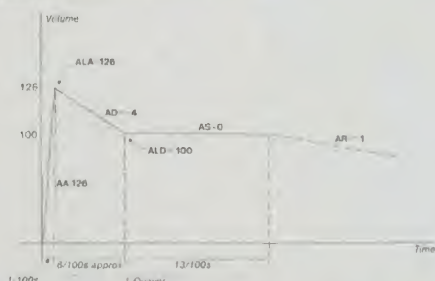
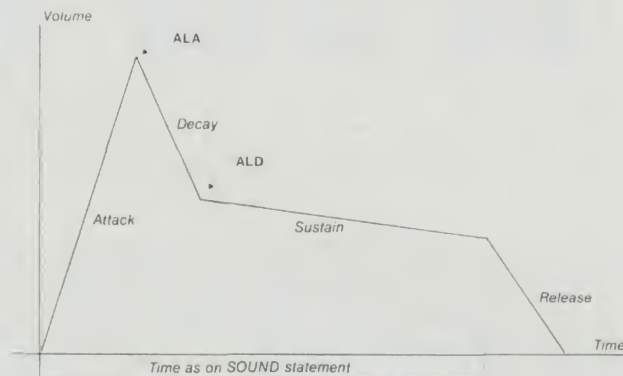

Figure 5. Percussive amplitude envelope given by ENVELOPE 1, 0, 0, 0, 0, 0, 0, 0, 0, 0, 126, -4, 0, -1, 126, 100.
Figure 4. Amplitude waveform common to ENVELOPE statement.
Look at figure 4. This is an amplitude waveform common to the BBC ENVELOPE statement. It consists of 4 ranges marked attack (AA), decay (AD), sustain (AS), and release (AR), as well as two set points (ALA) –volume after attack ramp and ALD, –volume after decay ramp. The volume levels ALA and ALD are numbers between 0 and 126. To produce a useful envelope consideration has to be given to the type of instrument to be imitated. Look at figure 5 which is the amplitude envelope of a percussive piano-like instrument. Note the steep gradient of the attack ramp – giving the note bite, and the gentler slope of the decay, sustain, and release ramps, giving the fading sound of a piano note. The command to produce this is: